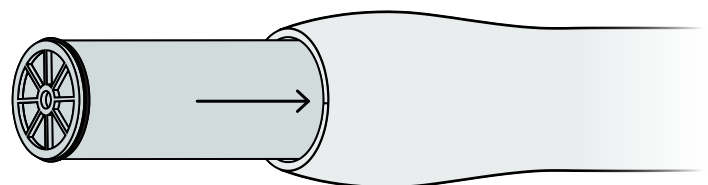

Figure 2: Insertion of first RO element.
2. Gently insert the first element two-thirds of its length into the vessel (**Figure 2**). Lubricate the brine seal thoroughly, using glycerin or silicon-